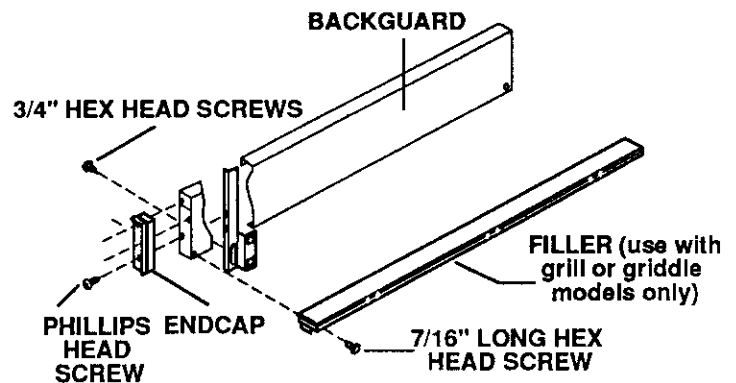
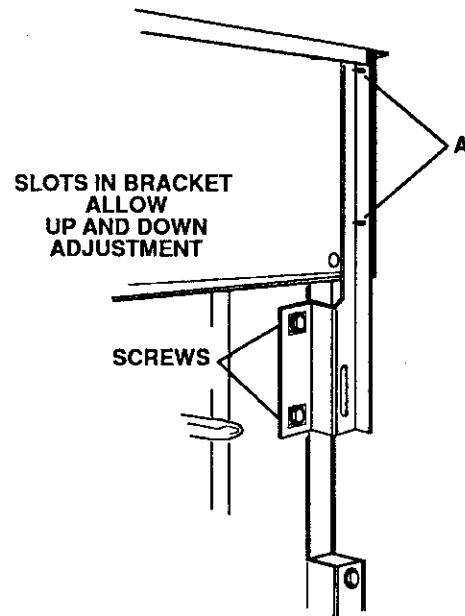

Fig. 2
Fig. 5
Assemble the backguard, the endcaps and the brackets, using the Phillips head screws (through the sides of the backguard). The brackets fit inside the backguard, and the endcaps fit on the outside. See Figs 2 and 3.
If the range is a Grill or Griddle model, attach the filler to the front of the backguard assembly using 7/16" long hex head screws. See Fig. 2. **The filler will not be used if the range is not a Grill or Griddle model.** After installation on the range, the backguard should be adjusted up or down so that the lower lip of the filler is just under the range maintop. See Fig. 5. This gives a flush look between the maintop and the filler.
- A. Slide-in ranges that have notched bodysides (as shown in Fig. 5).
Attach the backguard assembly to the range back on each side, as shown in Figure 5. See note at right.